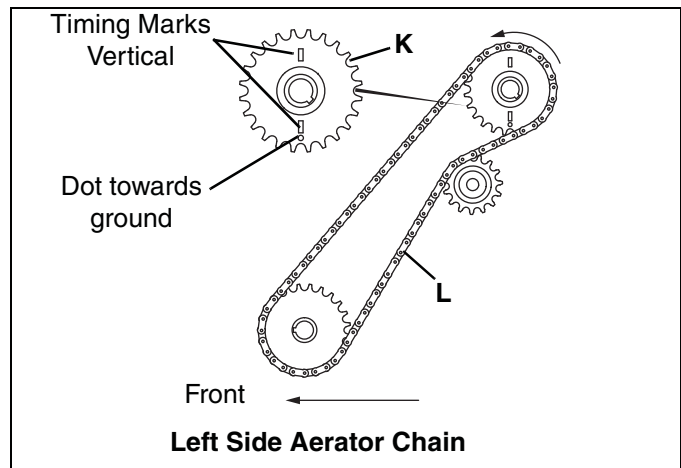

Figure 6D
4. Rotate right camshaft sprocket **(G)** until the keyway is pointing towards the front of the unit. Timing marks should be at a 45° angle with dot towards the lower front. [See Figure 6D]